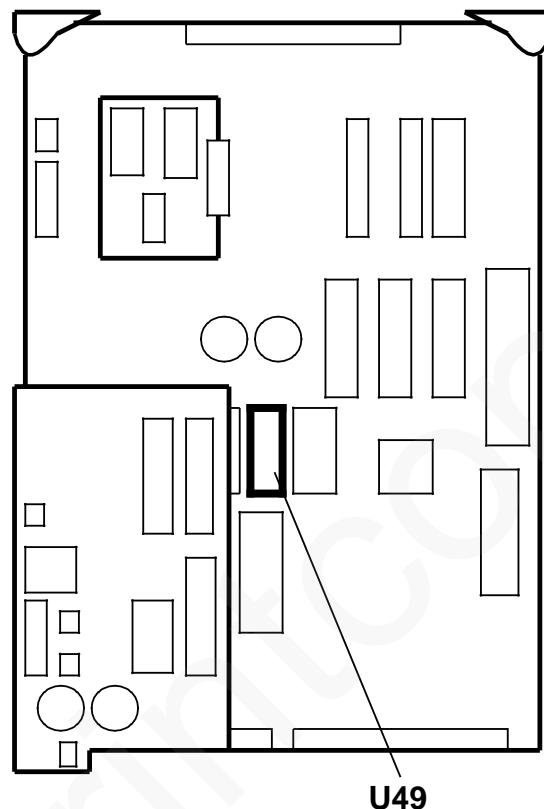

Figure 2. Location of E2 PROM U49
- e. Raise control panel assembly above upper scan cover. (Figure 2)
1. If replacing A2 Main PWB, switch E2PROM (U49) on the old and new PWB. (Figure 2)